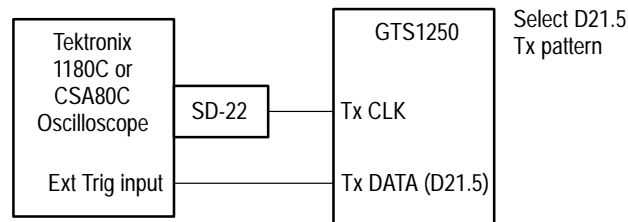

Figure 22: Tx Clock to Data Random Jitter Test Setup
2. Connect an SMA cable between the Tx DATA output of the GBIC Test System and the oscilloscope Ext trigger input as shown in Figure 22.
3. Connect an SMA cable between the Tx CLK output of the GBIC Test System and the SD-22 input of the oscilloscope as shown in Figure 22.